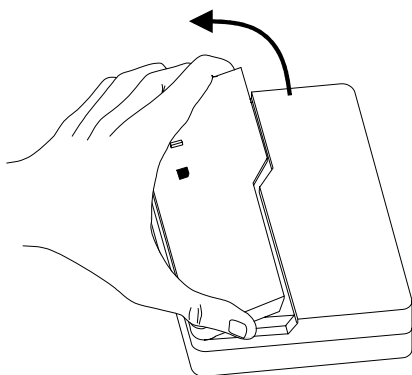

Figure 2. Opening the Sensor Door
- 1) Open the sensor door by grasping it at the top and bottom with one hand and pulling upward (see Figure 2).